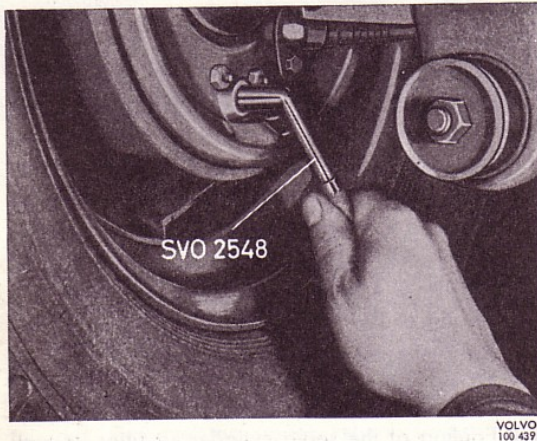

Fig. 26. Adjusting the wheel brake unit.
2. Rotate the wheel while applying the brakes by turning the adjusting screw clockwise with the help of spanner SVO 2548, see Fig. 26. When the wheel can only just be turned round with one hand, stop turning the screw. Then ease off four "notches" and check that the brake drum can rotate freely with the adjusting screw in the locked position.